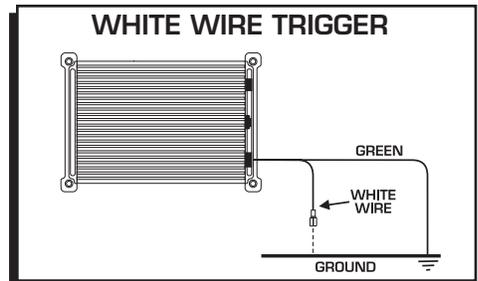

Figure 7 Checking for Spark.
5. Tap the white wire to ground quickly several times (Figure 7). Each time you pull the wires from ground, a spark should jump from the coil wires to ground. If spark is present, the ignition is working properly. Do the same test using the Green Trigger wire. If there is no spark skip to step 7 below: